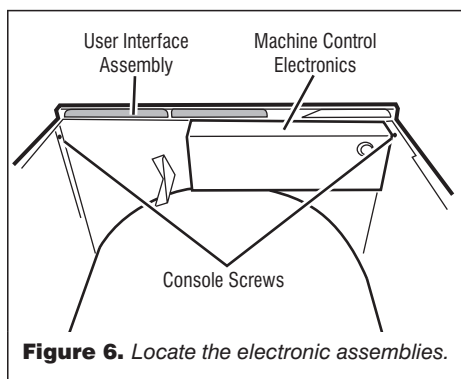

Figure 6. Locate the electronic assemblies.
There are two electronic assemblies; the user interface assembly, and the machine control electronics. See figure 6.
2. After removing the top panel, remove the console screws located in the upper corners of the console. See figure 6.